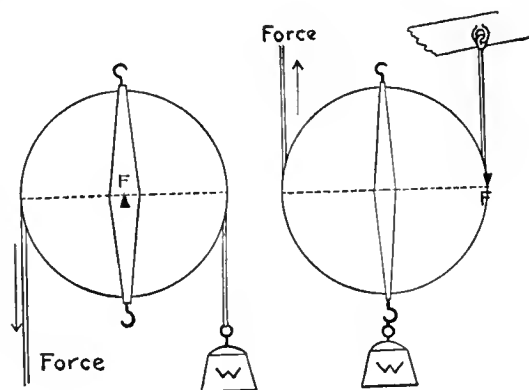

FIG. 261. THE PULLEY IS A LEVER
The pulley is also a lever. Pulleys are of two kinds: those which are fixed or attached to something solid, and those which are movable. In order to gain an advantage of force over a resistance, some form of movable pulley must be used. A study of the fixed and movable pulleys in Figure 261 will teach you how the pulley is a special kind of lever.
6. What is the mechanical advantage of a single fixed pulley as shown in the diagram in Figure 261?